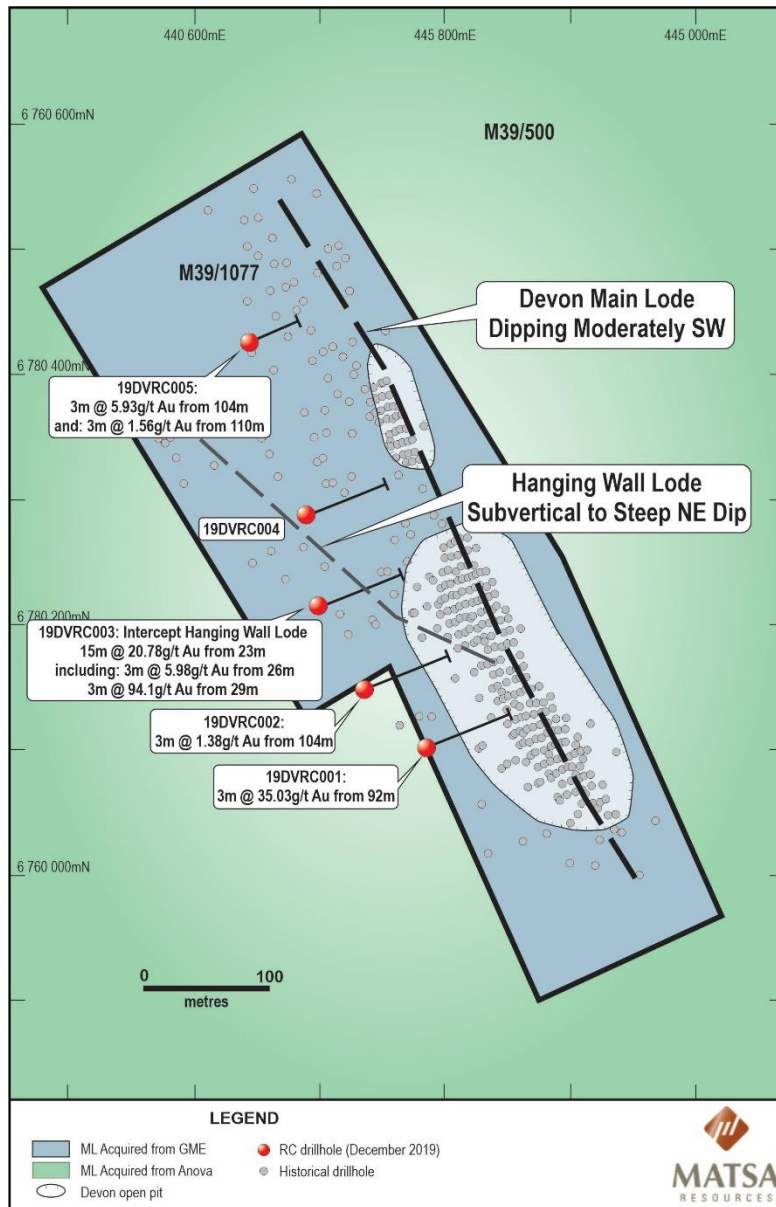

Figure 2: Devon RC drilling December 2019 with Interpreted Surface Projection of Main and Hanging Wall lodes, previous drilling and tenement boundaries
Key mineralised intercepts from December RC drilling as follows (Figures 2 and 3):
- Recent mining occurred within a very small mining lease surrounded by a third party Mining Lease as shown in Figure 2, which restricted development of the Devon Main Lode which dips towards the SW at a moderate angle of ~45 degrees. All relevant leases are now owned 100% by Matsa and the project can now be evaluated without the restriction of tenement boundaries.